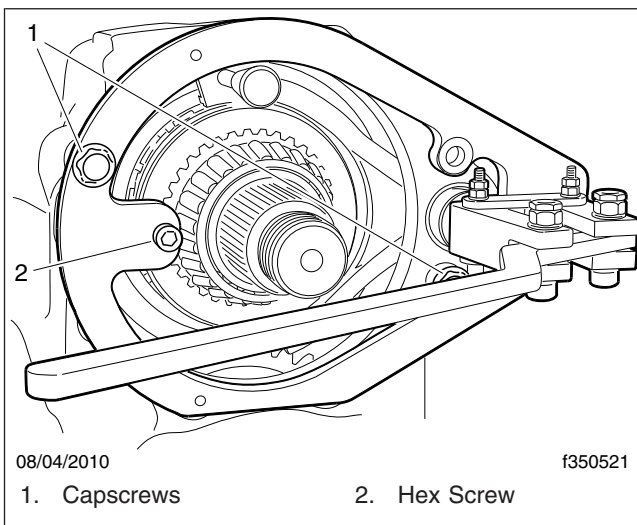

Fig. 10, Shift Shaft Piston Installer, Mounted
- 27.1 The shift shaft piston installer (see Table 1) is designed to install the piston without damaging it or the carrier housing. Use two bearing cage capscrews to mount it to the carrier housing. See Fig. 10.